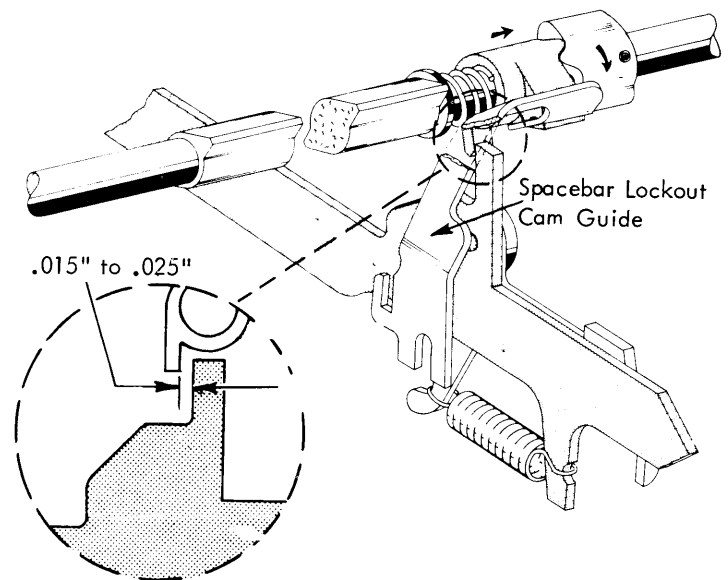

FIGURE 121. *Spacebar Lockout Cam Guide Adjustment*
- b. Lockout Cam Guide - Adjust the guide up or down so that the spacebar interposer will be allowed to move to the rear .015" to .025" when the interposer is unlatched (Fig. 121). The filter shaft must be rotated until the lockout cam moves fully to the right to check this adjustment.